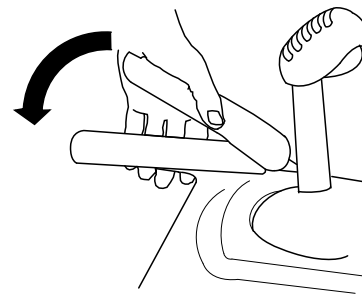

Figure 4
3. Squeeze the left (traction) lever to the handgrip (Figure 4).
6. Squeeze the left (traction) lever to the handgrip (Figure 4).